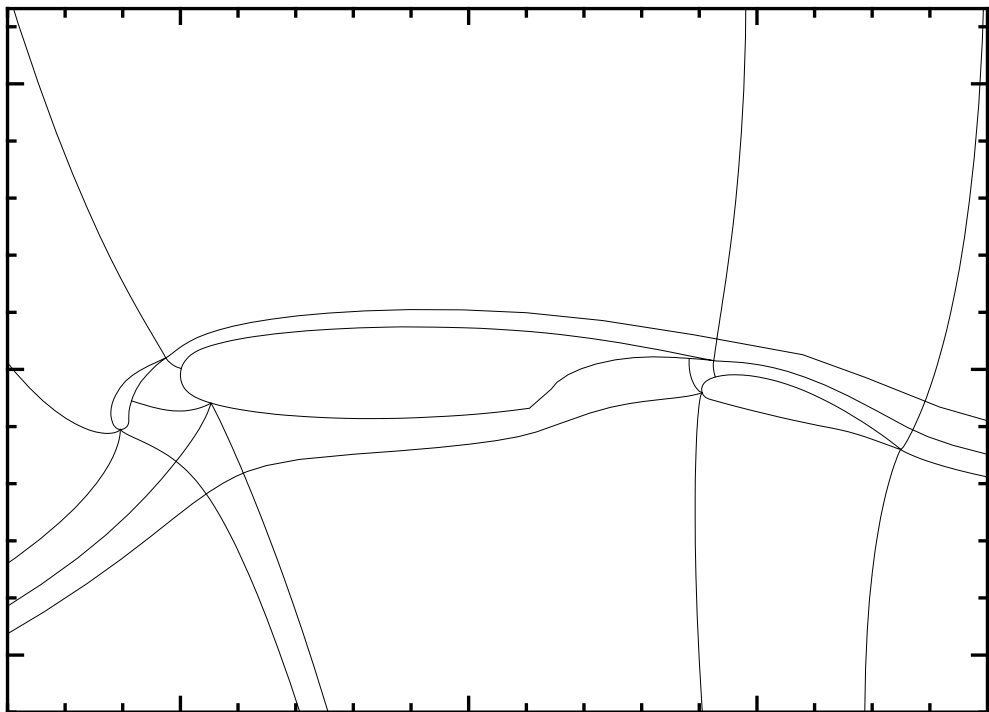

Figure 6.4: Domain decomposition for Test Case 2
4. Domain decomposition plot (figure 6.4)